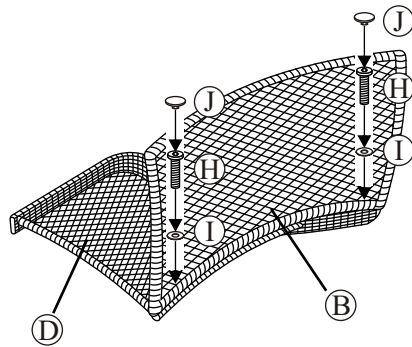
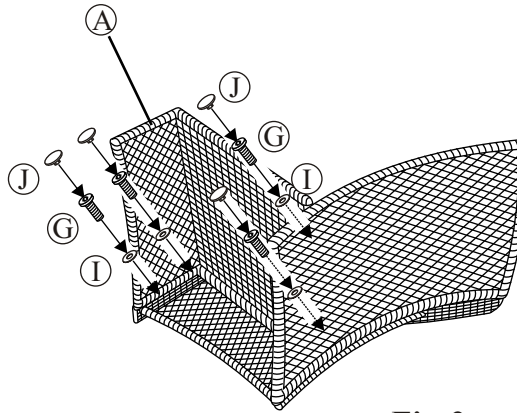
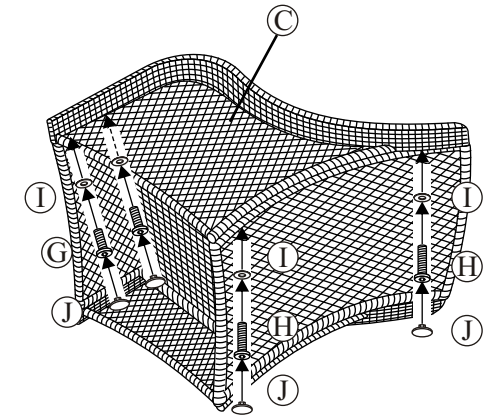

Fig.1
Fig.2
Fig.3
Step 2: Attach the back frame to right arm by using two 5/16"x40 mm bolts and washers as shown in **Fig.1**. Guide the bolts through holes in back frame, into pre-drilled holes in the right arm. **Hand tighten only.** Attach the seat frame to right arm and back frame by using four 5/16"x25 mm bolts and washers as shown in **Fig.2**. **Hand tighten only.** Attach the left arm to back and seat frame by using two 5/16"x25 mm bolts and two 1/4"x40 mm bolts and four washers as shown in **Fig.3**. **Hand tighten only.**